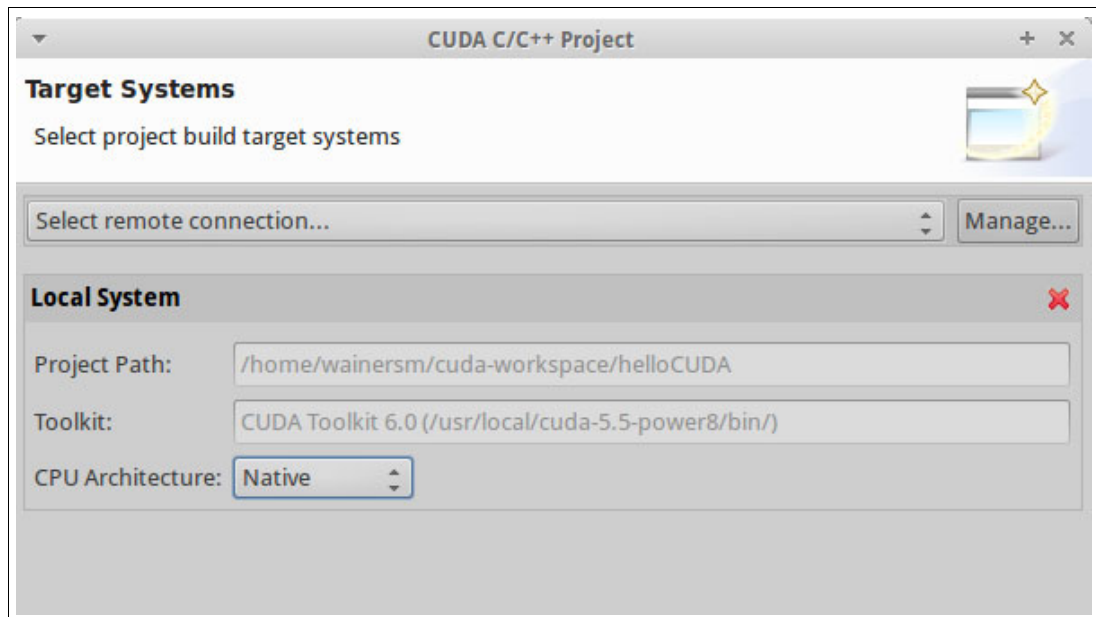
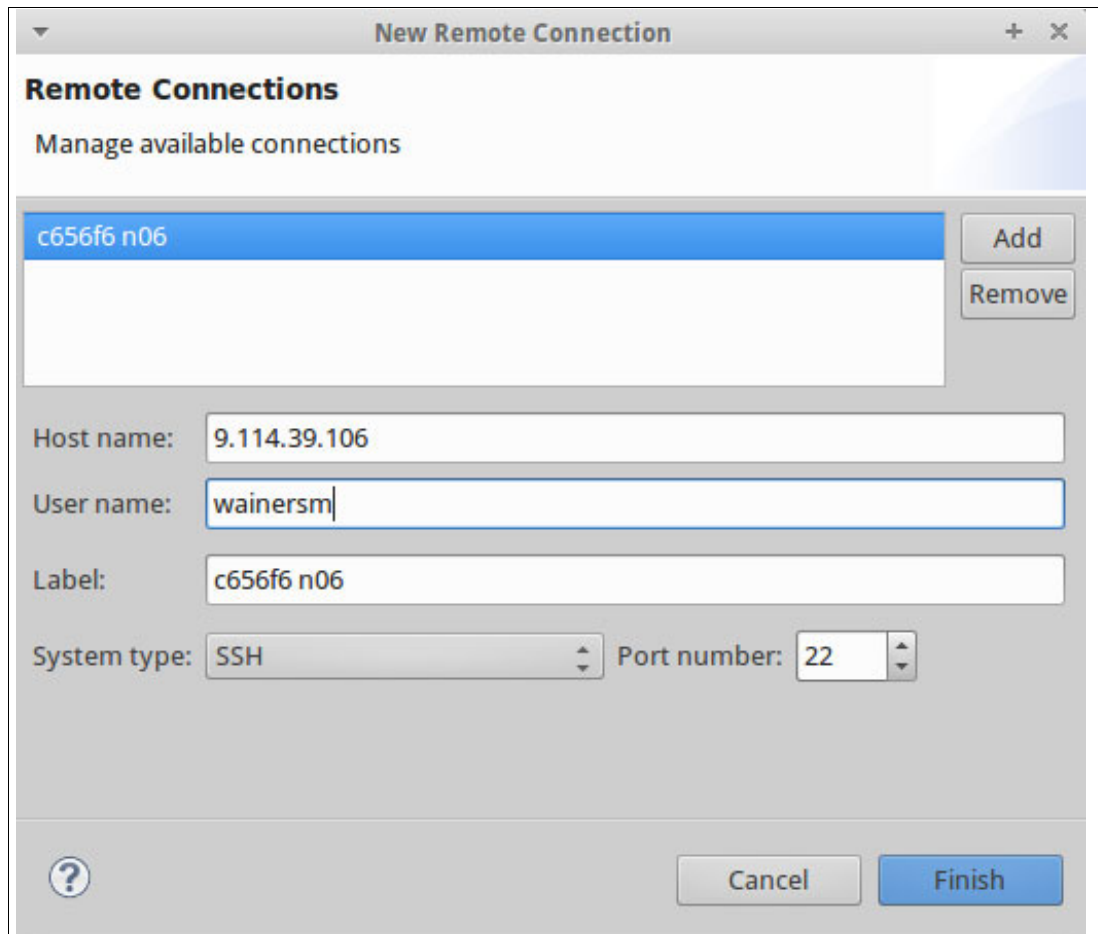

Figure 11 Initial target systems at the new CUDA C/C++ project
Figure 12 New connection configuration window
3. Click **Next** to open the Target Systems window as shown in Figure 11. If a connection to the compute machine exists, select an option in the drop-down list. Otherwise, click **Manage** to add a connection to the machine. The Remote Connections window opens (see Figure 12 on page 47), then click **Finish**.